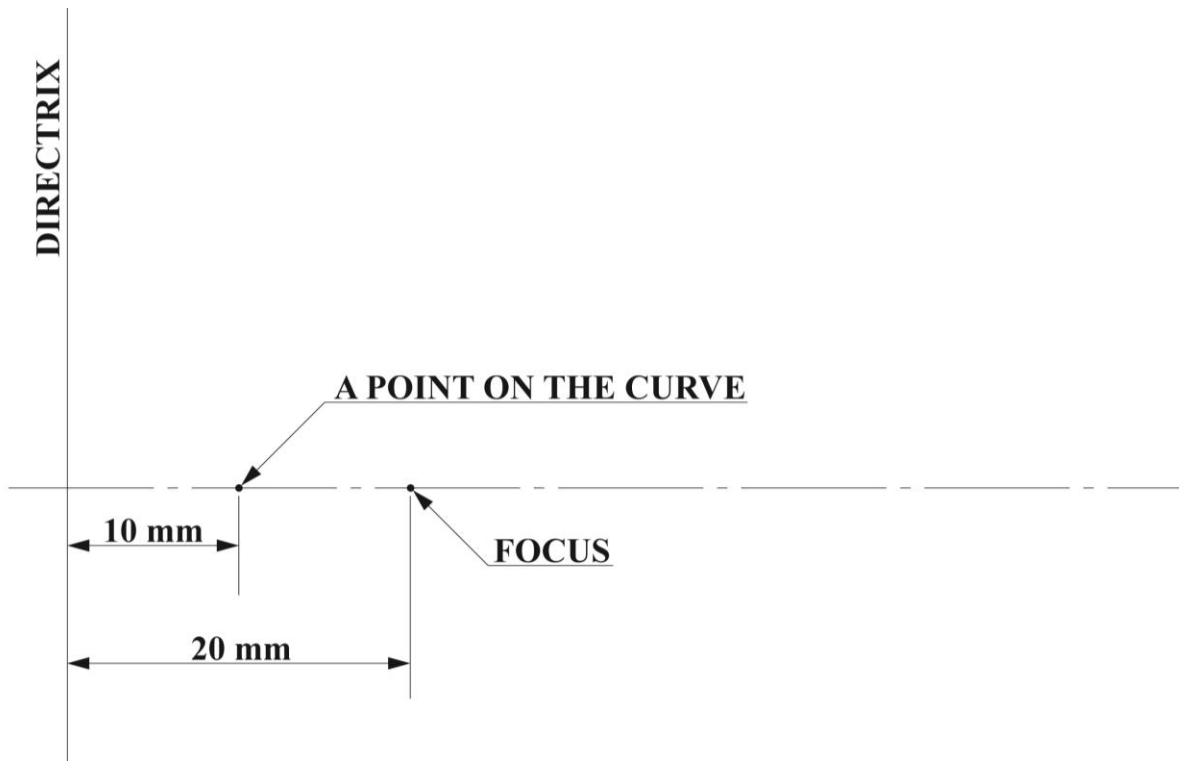

Figure 1. Framework for parabola
1. Figure 1 shows the framework for a parabola.
- (a) Draw a parabola given the relative positions of the focus and the directrix as shown in Figure 1. **[5 marks]**